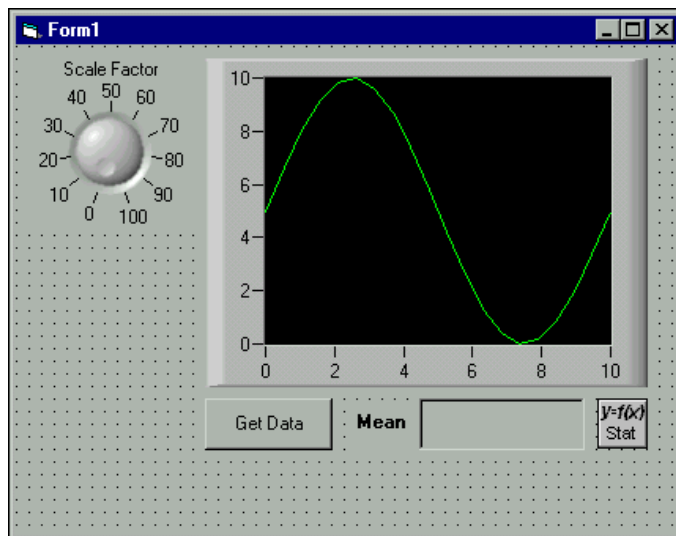

Figure 3-4. Interact with Data
Goal Interact with the data from the user interface. For this example, scale the data by the value that appears on a knob, as shown in Figure 3-4.
1. Place a Measurement Studio Knob (CWKnob) control on the form as shown in Figure 3-4. By default, Visual Basic names the control CWKnob1. Right click on the knob and select **Properties** to modify its custom properties. On the Numeric page, change **Minimum** and **Maximum** to **10** and **100**, so that you can scale the data by 10 to 100. Make the knob caption display **Scale Factor**. Click **OK**.